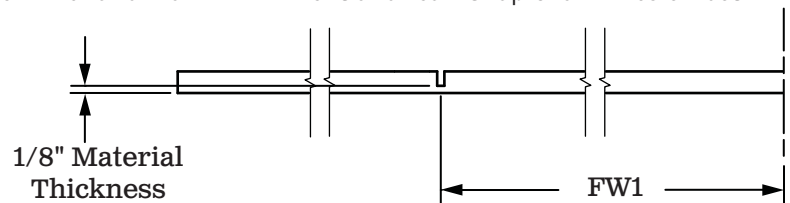

Figure 7
- 4) See **Figure 7**. Measure from center mark on liner and mark "FW1" front and rear. Snap chalk lines on both sides of center line (2 scores total).